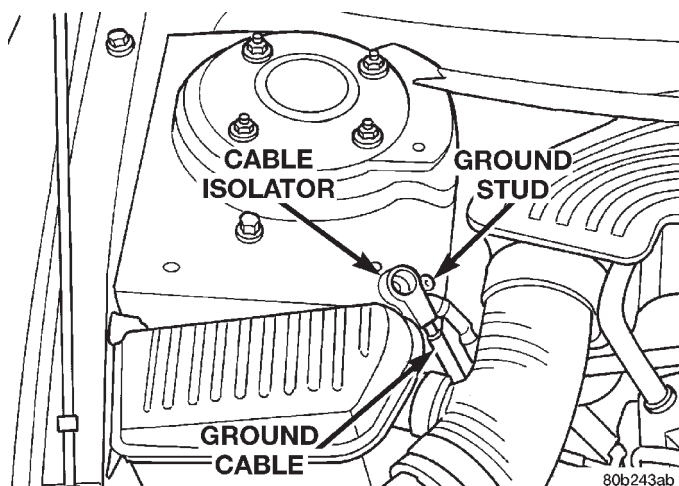

Fig. 2 Correctly Isolated Remote Ground Cable
(1) Remove the battery ground cable from the ground stud on the shock tower and isolate the ground cable by installing the cable isolator on the ground stud (Fig. 2).
(2) Position the front tires of the vehicle so that they are facing straight ahead.
(3) Raise the vehicle on a frame contact type hoist until the front tires of the vehicle are just off the floor. See Hoisting in the Lubrication and Maintenance section of this manual for the required lifting procedure to be used for this vehicle.